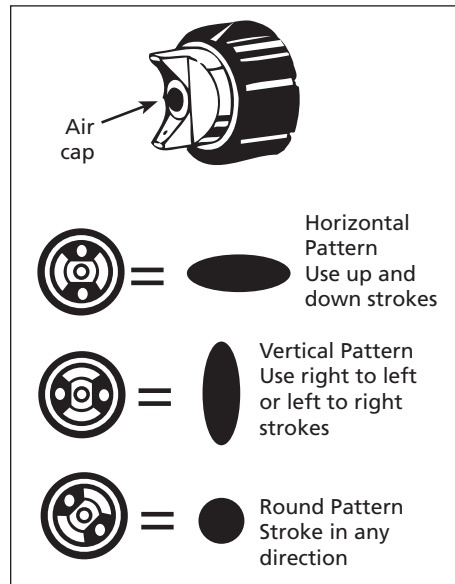

Figure 9 - Adjusting spray pattern
- To adjust spray pattern, rotate air cap to desired pattern position (See Figure 9).